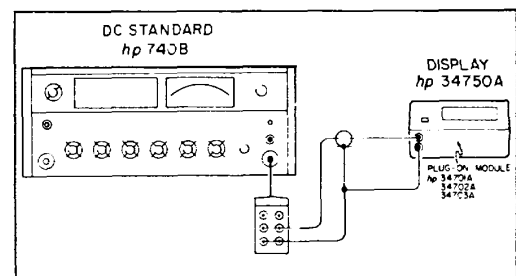

Figure 5-3. Zero Detect Comparator Offset Adjustment
- a. Connect the equipment as shown in Figure 5-3